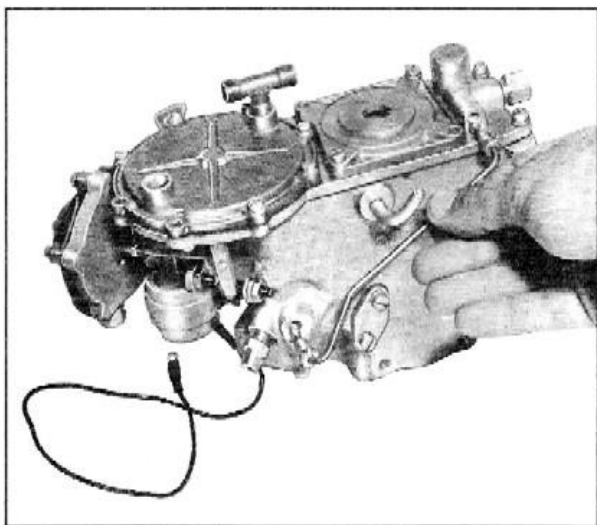

Fig. 17 Removing Starting By-Pass Fuel Line
2. Remove starting by-pass fuel line, Fig. 17.